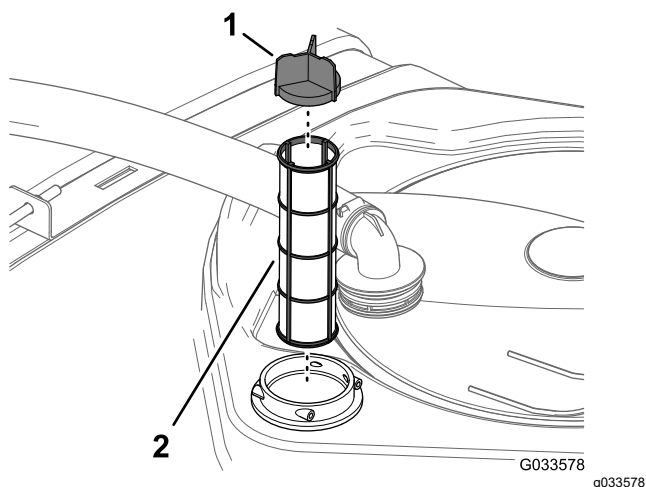

Figure 28
4. Pull the suction strainer out of the filter housing in the tank (Figure 28).